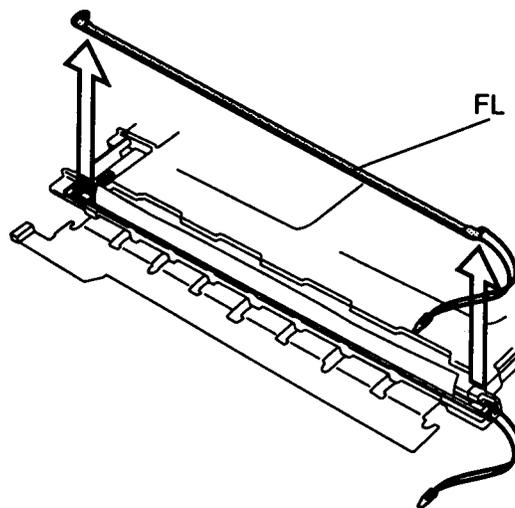

Figure 4-29 Lifting out the FL
1. Seat the **FL**, gently pressing it securely in place and covering it with the end of the reflector sheet. Be careful not to pull or apply tension to the reflector sheet (Figure 4-29).